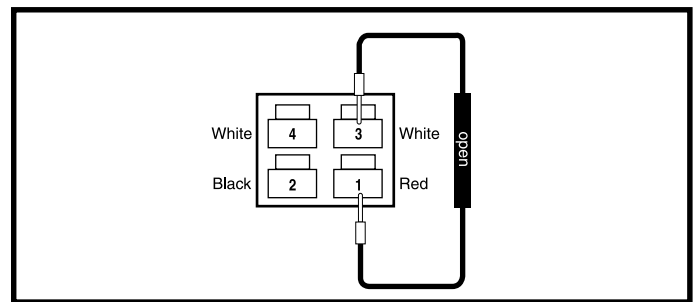

Figure 26. Connector 8a - Pins 1 and 3
2. Measure resistance across pin 1 (red) and pin 3 (white) and across pin 1 (red) and pin 4 (white) on connector 8a. **See figures 26 and 27.**
- If your multimeter indicates an open on both tests, then replace the VSI controller (1) and retest the system.
- If your multimeter does not indicate an open on both tests, then replace the right motor (8) and retest the system.